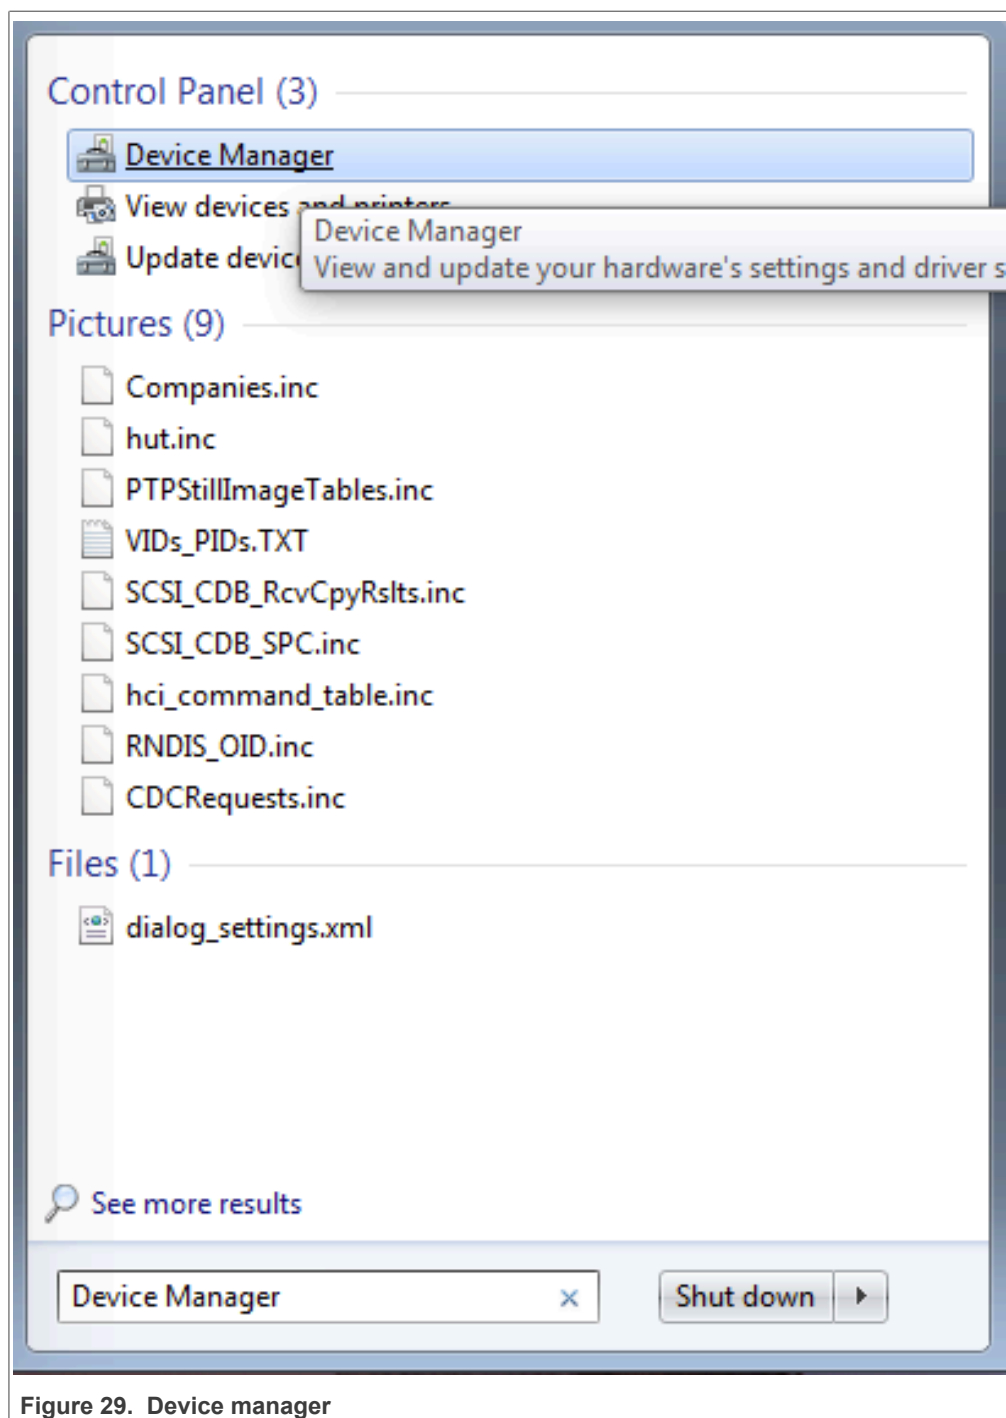

Figure 29. Device manager
1. To determine the COM port, open the Windows operating system Device Manager. This can be achieved by going to the Windows operating system Start menu and typing **Device Manager** in the search bar, as shown in Figure 29.